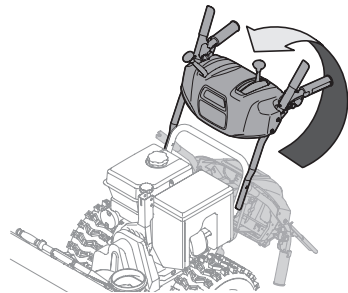

Figure 4
4. Ensuring any cables, and wiring harness are clear of pivot points, Pivot handle upward and align the lower handle (Figure 4). Remove and discard any rubber bands, if present. They are for packaging purposes only.